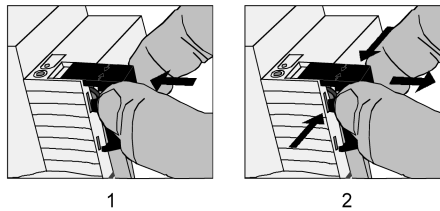

Figure 5: Installing / removing the protective cap
- Installing the protective cap (A): Push the protective cap over the bus terminal (see Figure 5) until you feel it engage.
- Removing the protective cap (B): Remove the protective cap by pressing it slightly to the side and pulling it forward and off.